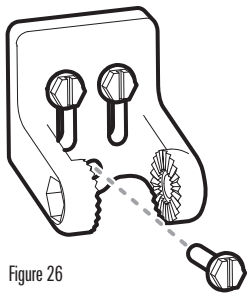

Figure 26
8. Re-position the transducer bracket against the transom of the boat, then hand-install all three screws. Make sure that the transducer location has not changed, then fully tighten all three mounting screws (Figure 26). **Hand tighten only!**